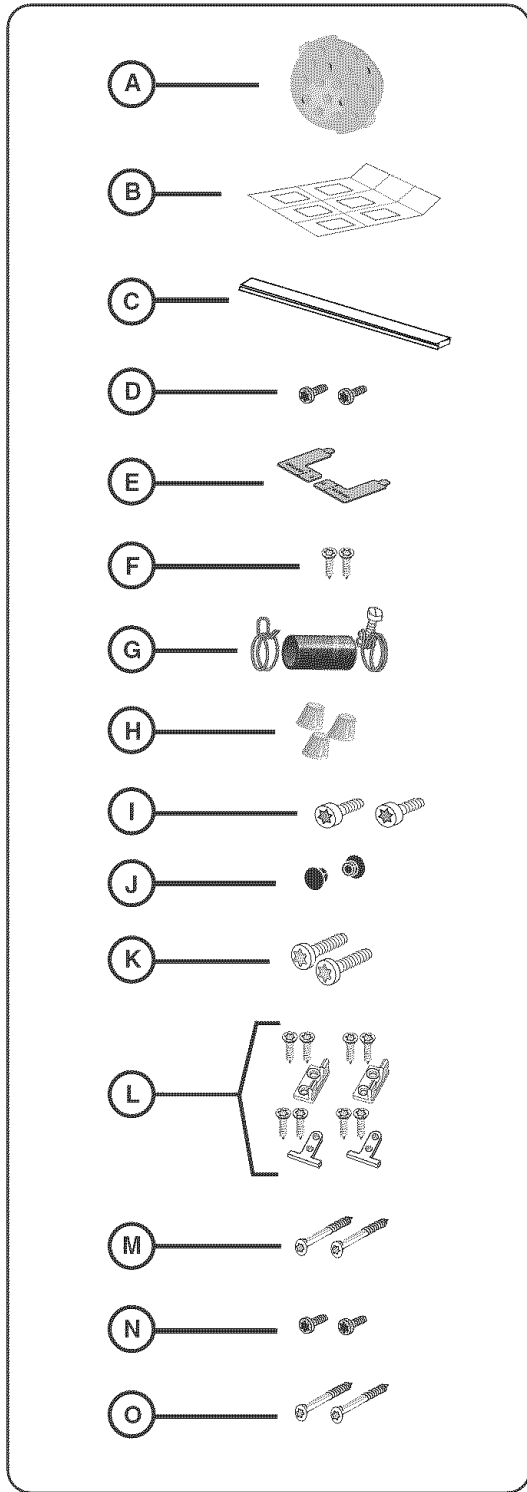

Figure 1
Accessory Parts for your dishwasher will come in one or more plastic bags. Check to make sure that the parts shown in Figure 1 are included with your model (NOTE: Illustrations are not to scale). If any parts are missing, contact your dealer immediately.
- Extra Tall Item Sprinkler (Fig. 1, letter A)
**SHI and SHV models** also have SHI/SHV Panel Installation Template Sheet (Figure 1, letter B).
**SHY66 and SHX99A models** also have a Cotton Insulation Strip (Figure 1, letter C).